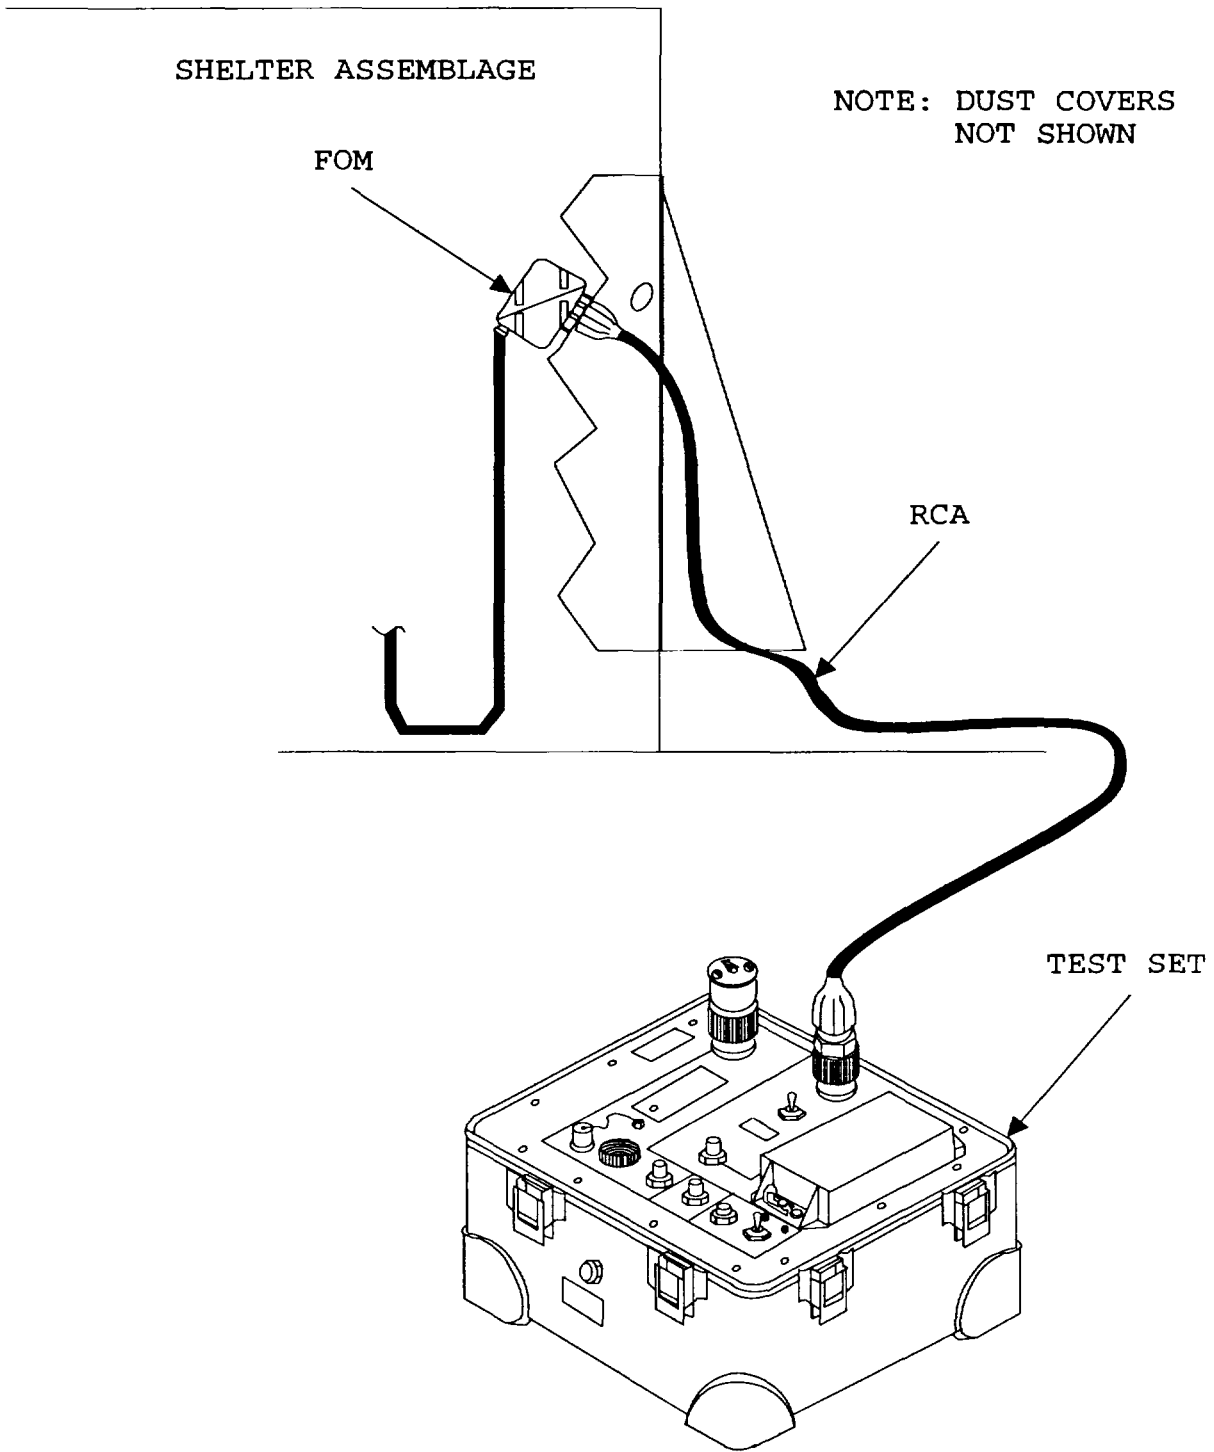

FIGURE 2-6. Setup for Optical Power Measurement Of FOM.
- (5) Remove dust covers from optical connectors on RCA and FTF FOBC.
- (6) Disconnect FOCA from FOM.
- (7) Connect RCA to FTF and FOM FOBCs. The setup for optical power measurement of a FOM is shown in Fig. 2-6.
- (8) Observe OSM display. OSM display should read greater than -23 dBm (closer to zero).